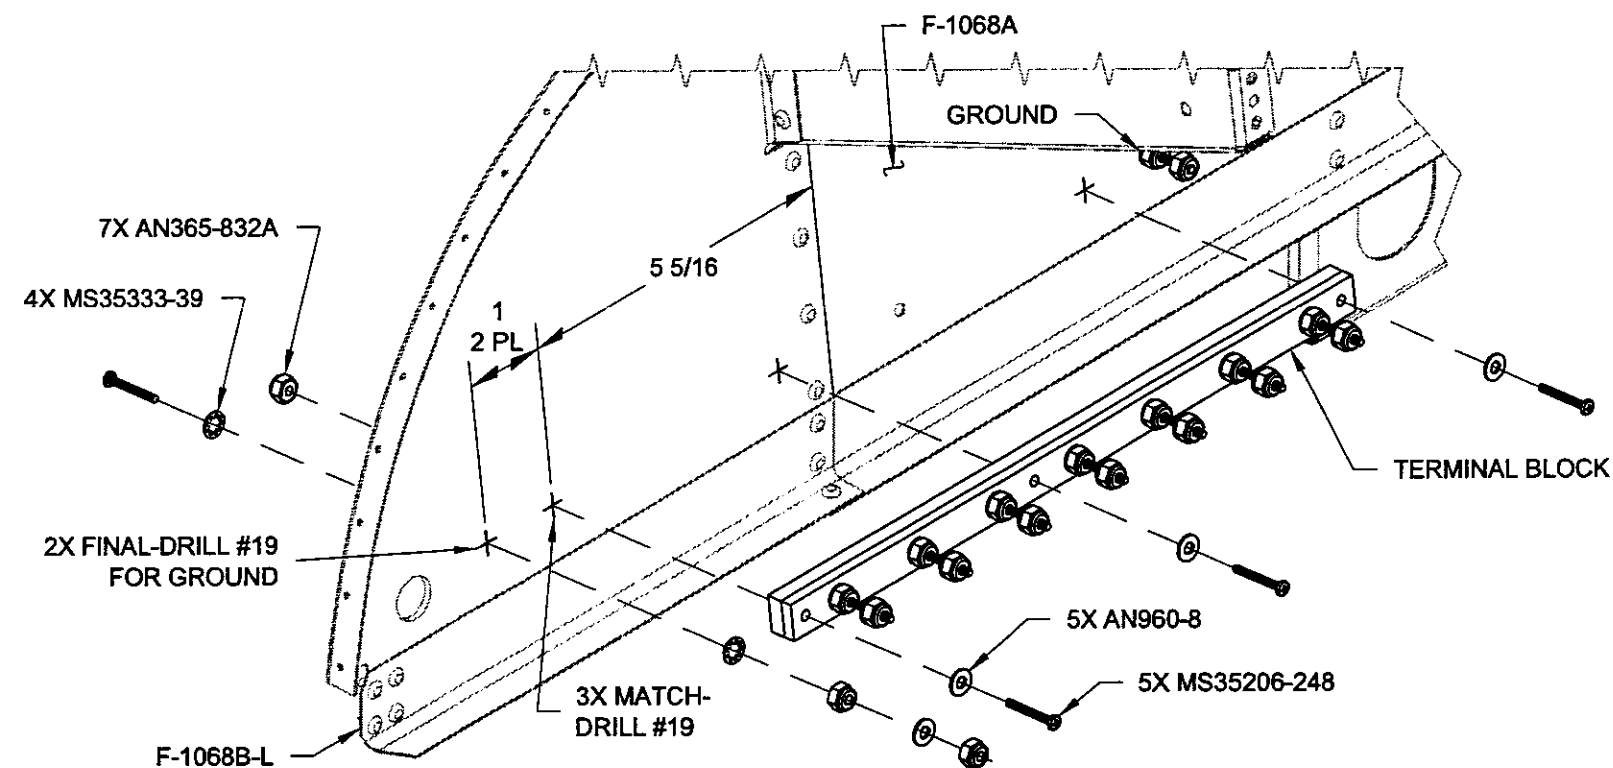

FIGURE 2: MOUNTING TERMINAL BLOCK
Step 2: Mount the WH-800 Terminal Block to the F-1068A Sub Panel Center and F-1068B-L Sub Panel Side using the hardware called out in Figure 2. Center the terminal block vertically between the gap in the AN470 rivets. Drill one #19 hole on either side of the assembly for ground connections. Remove any paint or primer at the holes and use internal tooth lock washers to help make good electrical contact.